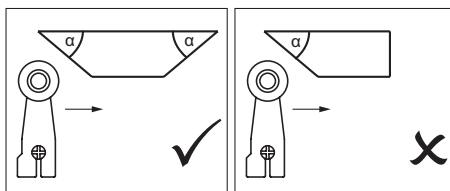

Fig. 1: Dog shape
- ▶ To prevent the actuating element from bouncing, the dog must run out gradually (see Fig. 1).